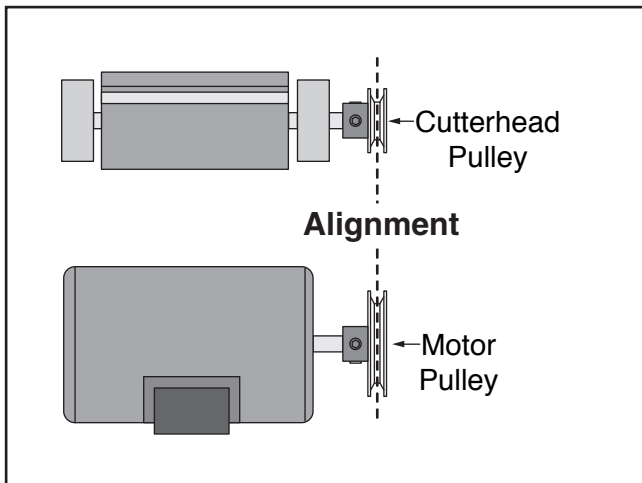

Figure 8. Pulleys aligned.
4. Visually check the alignment of the two pulleys to make sure that they are aligned and that the V-belt is straight up and down (see **Figure 8**).